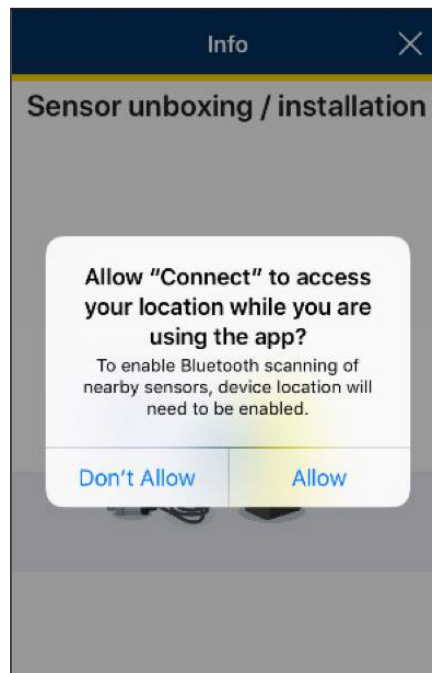

Figure 7
3. Chesterton Connect™ communicates with the mobile device via Bluetooth. To enable Bluetooth scanning, it is required to allow the Chesterton Connect app to access the mobile device's location (see figure 7).